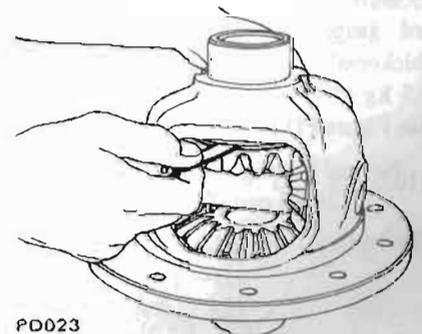

Fig. PD-11 Measuring clearance
- Adjust side gear to pinion mate backlash or adjust the clearance between the rear face of side gear and thrust washer. See Figure PD-11.